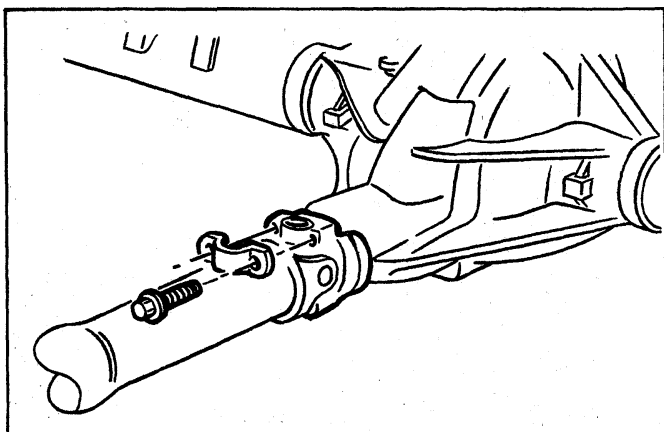

Fig. 106—Removing Propeller Shaft from Companion Flange
2. Remove trunnion bearing retaining strap attaching screws from both bearings (fig. 106).